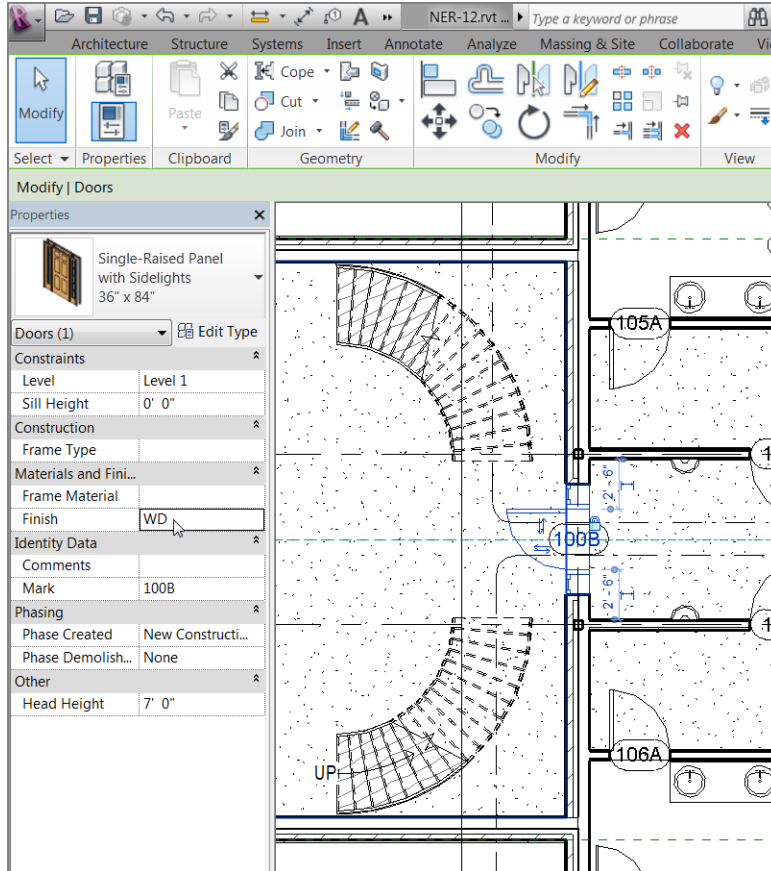

FIGURE 11.12: Changing the property of an element in the model does the same thing as changing the element in the schedule.
- 2. Zoom in on the door between the corridor and the east wing, as shown in Figure 11.12.
- 5. Click in the Finish field, and type WD (see Figure 11.12).